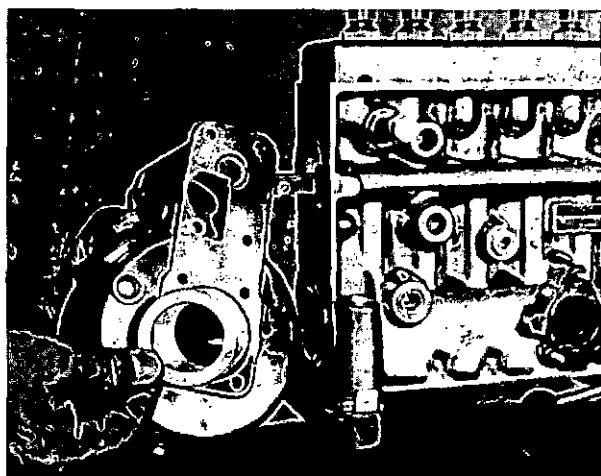

Fig. 7 Removing governor casing and adjusting plate.
9. Remove the governor housing and adjusting plate from the opposite end (fig. 7).